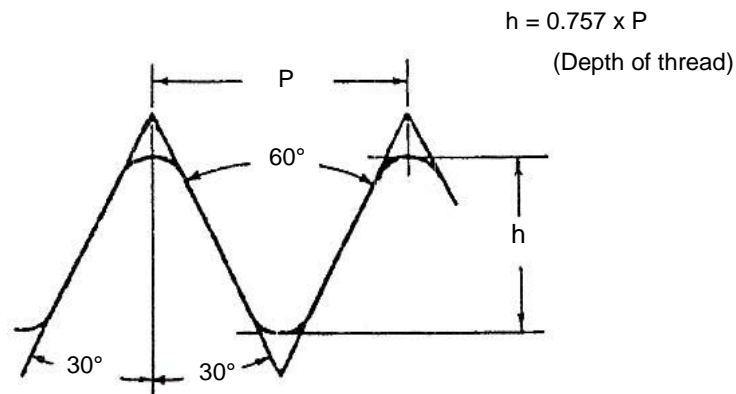

FIG 2.
Fig 2 below shows all the particulars of the ISO metric thread.
- b. Practice in working out the depth of a thread (Refer to Fig 2) will be given later in Module MTP for Fitter and Turner students.
B. The thread form and angle, and the formula for working out the depth of the thread are identical to that of the ISO metric system. Refer back to Fig 2.